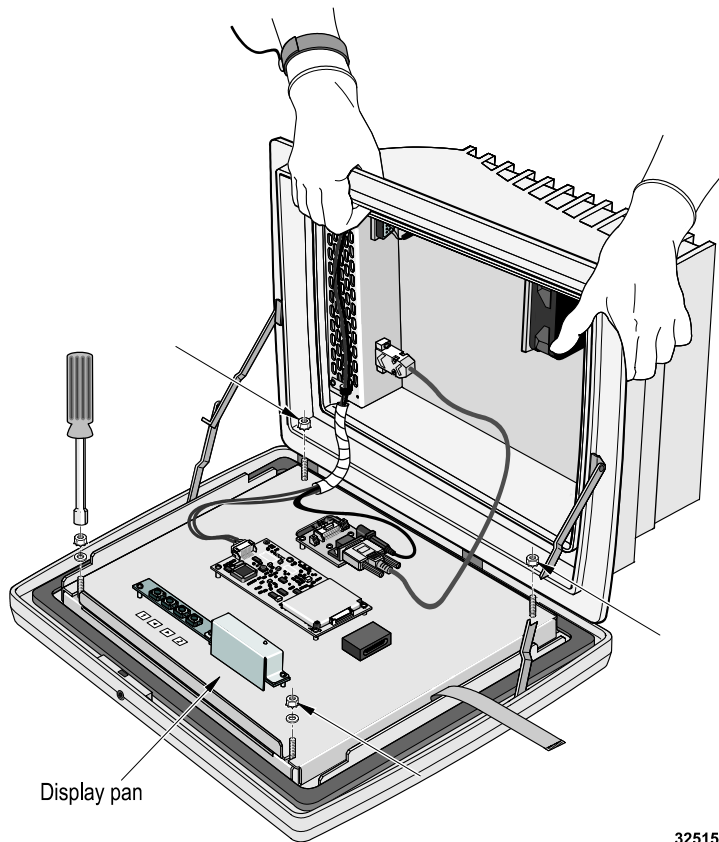

Figure 15: Removing display panel nuts and washers
7. Using a 5/16-inch torque hex nut driver, remove the four display panel nuts and washers (Figure 15).